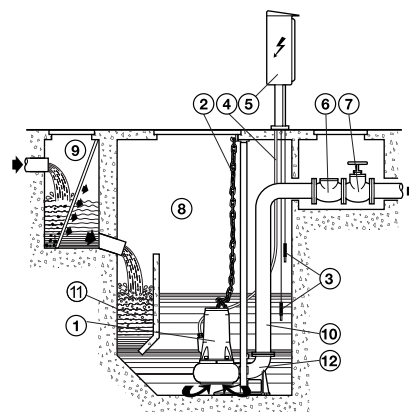

Fig. 6
5.2.2 FIXED INSTALLATION WITH COUPLING TO FOOT PEDESTAL (fig. 6)